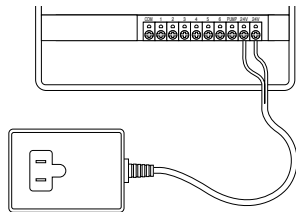

FIGURE 16: Connecting Transformer
- It may be necessary to open the terminal to allow for wire insertion or removal. To do this, turn the screw with a Phillips screwdriver until wire is secure [See Figure 16].